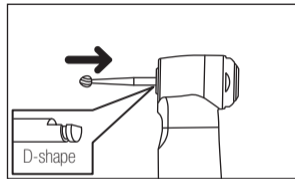

Fig. 1
- 1) Insert and lightly turn the bur until it engages with the latch mechanism. (Fig. 1)